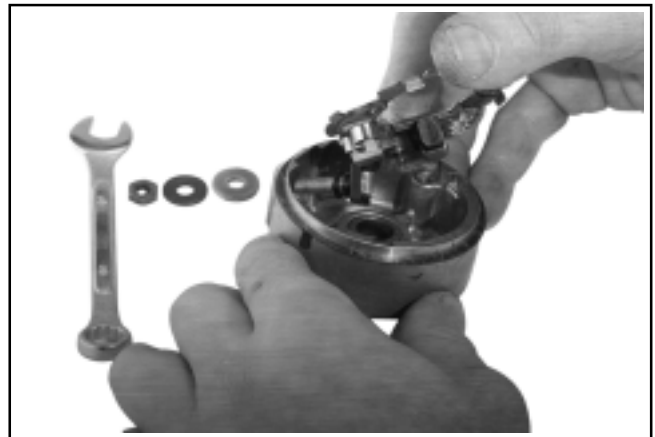

**Figure 8-31. Removing End Cap with Brush Plate.**
5. Remove the commutator end cap and brush plate assembly. See Figure 8-31.